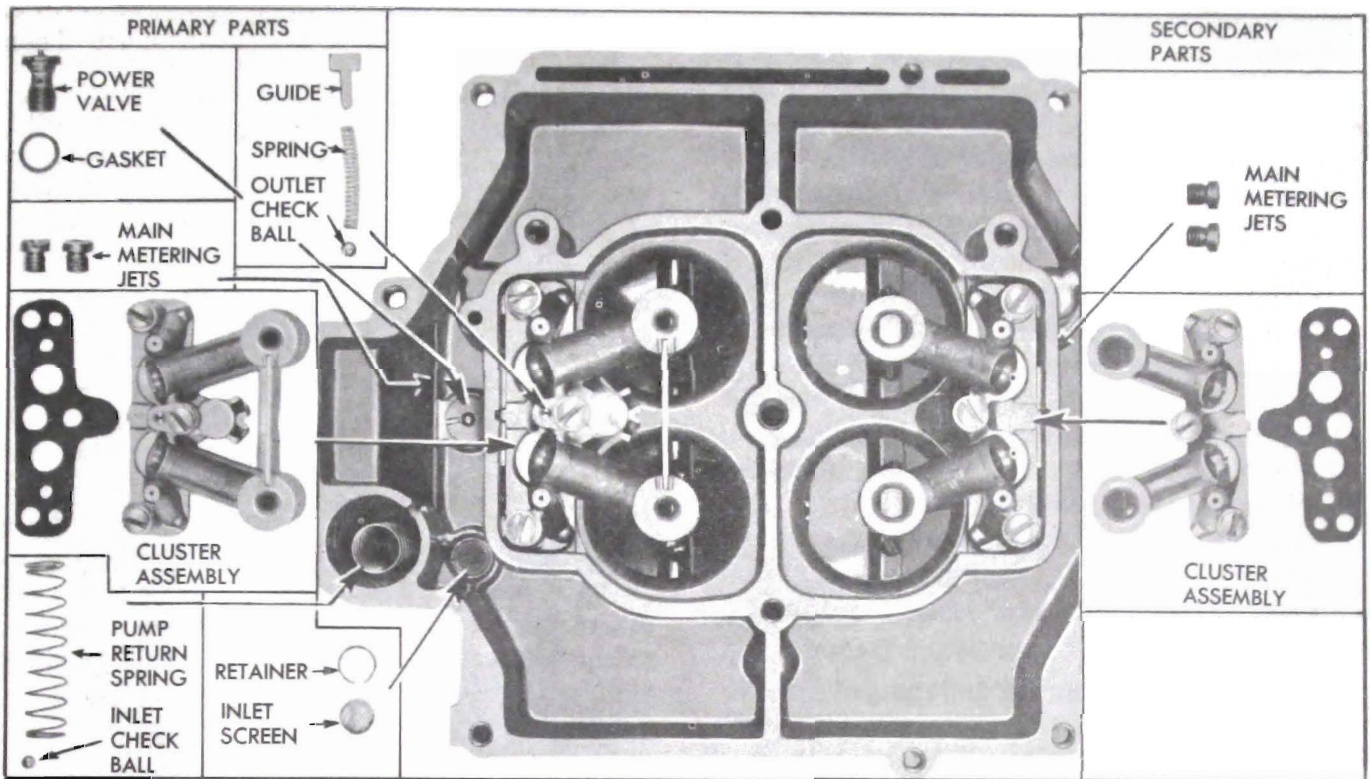

Figure 3-88—Main Body Parts
14. Remove both main metering jets from pump side of main body. See figure 3-88.